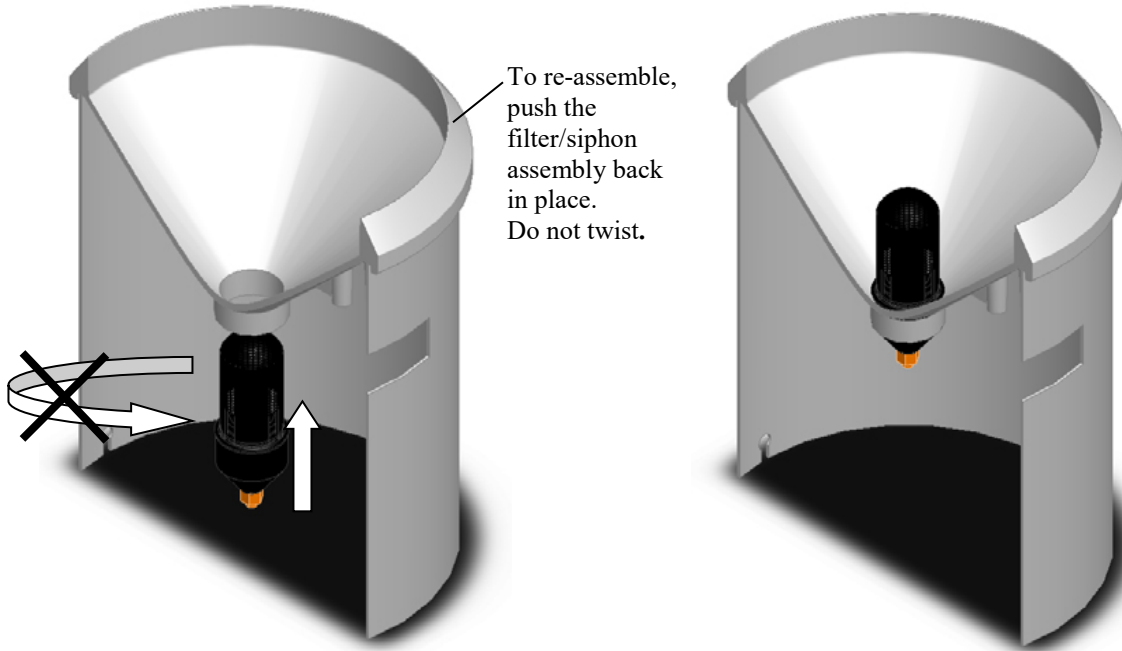

FIGURE 9-5. Reassembling the CS700
4. Push filter/siphon assembly back into place (FIGURE 9-5).